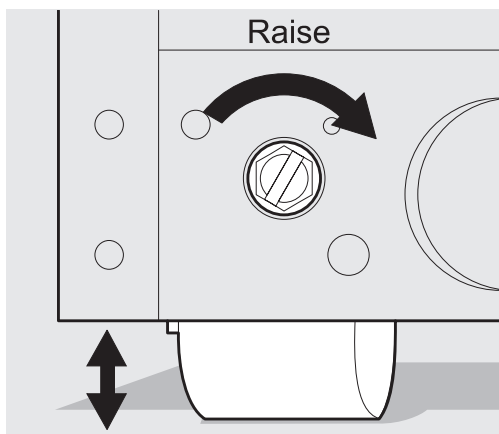

Figure 2
- 2 Use a flat-blade screwdriver or $\frac{3}{8}$ inch socket wrench to raise or lower the front rollers (Figure 2).